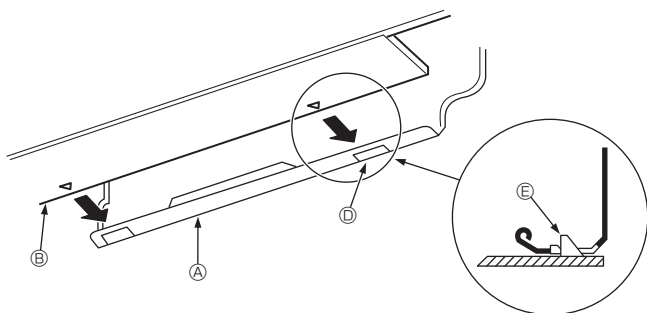

Fig. 3-24
3. While inserting the water piping and drain hose into the wall penetration hole (penetration sleeve), hang the top of the indoor unit to the mount board ①.
5. Fasten by pushing the bottom part of the indoor unit onto the mount board ①. (Fig. 3-24)
- * Check that the knobs ⑤ on the bottom of the indoor unit are securely hooked into the mount board ①.